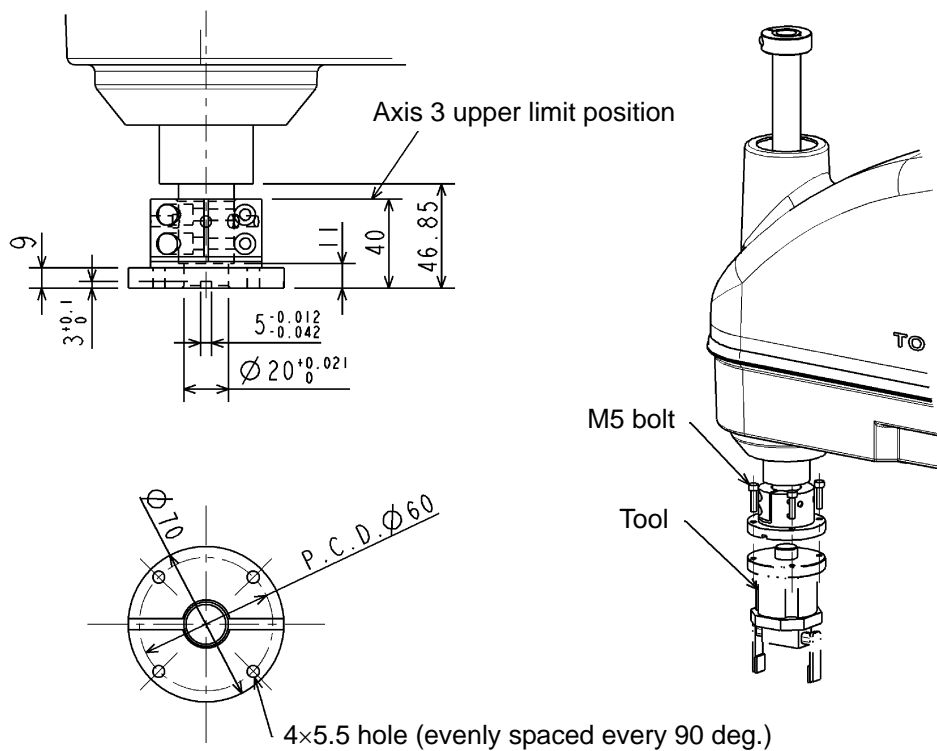

Fig. 5.1 Tool mounting dimensions
The tool is mounted on the end of the tool shaft. Dimensions of the tool shaft section are shown in Fig. 5.1.
As shown in Fig. 5.1, the tool is centered with the $\phi 20H7$ mating section. The tool direction is adjusted by means of the 5×5 keys and secured with four (4) M5 bolts. The same tool flange is used for the TH850A, TH1050A, and TH1200A.